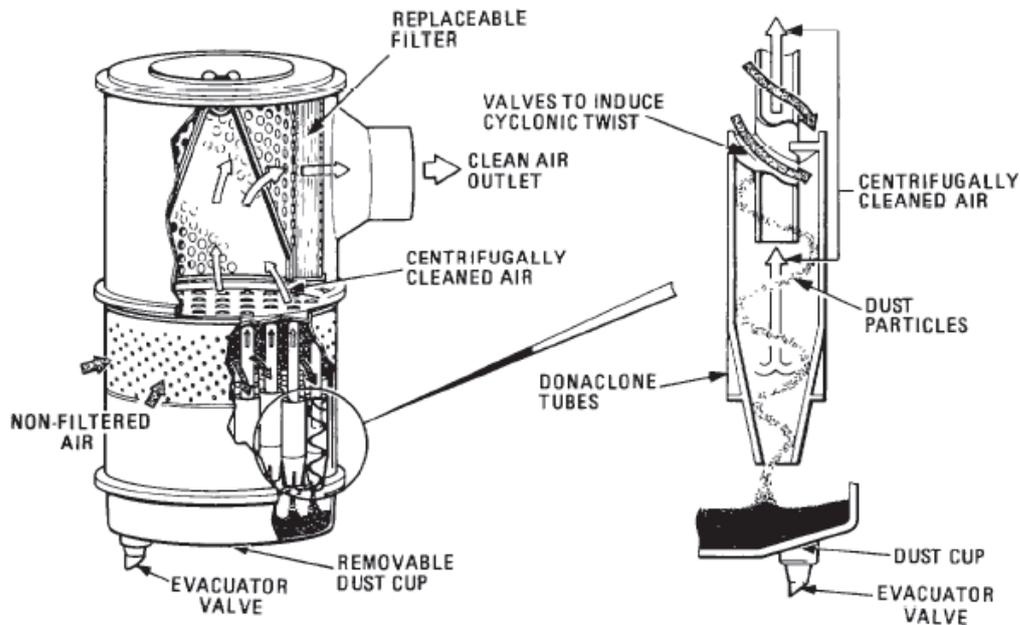

Figure 10 Air Flow Through Air Cleaner
27. Air is drawn through the perforations in the lower body (Figure 10) through the specially designed polypropylene tubes, which have vanes moulded into the top to induce a cyclonic twist to the air as it passes through. This causes the dust particles to be thrown outward, allowing clean air to be drawn up through the aluminium tubes to the filter element. The dust particles then fall through the bottom of the tubes and collect in the dust cup. The clean air then passes through the filter element, which extracts any dust particles that may have escaped the first stage of the cleaning process, before it flows on to the turbocharger or tip turbine fan.